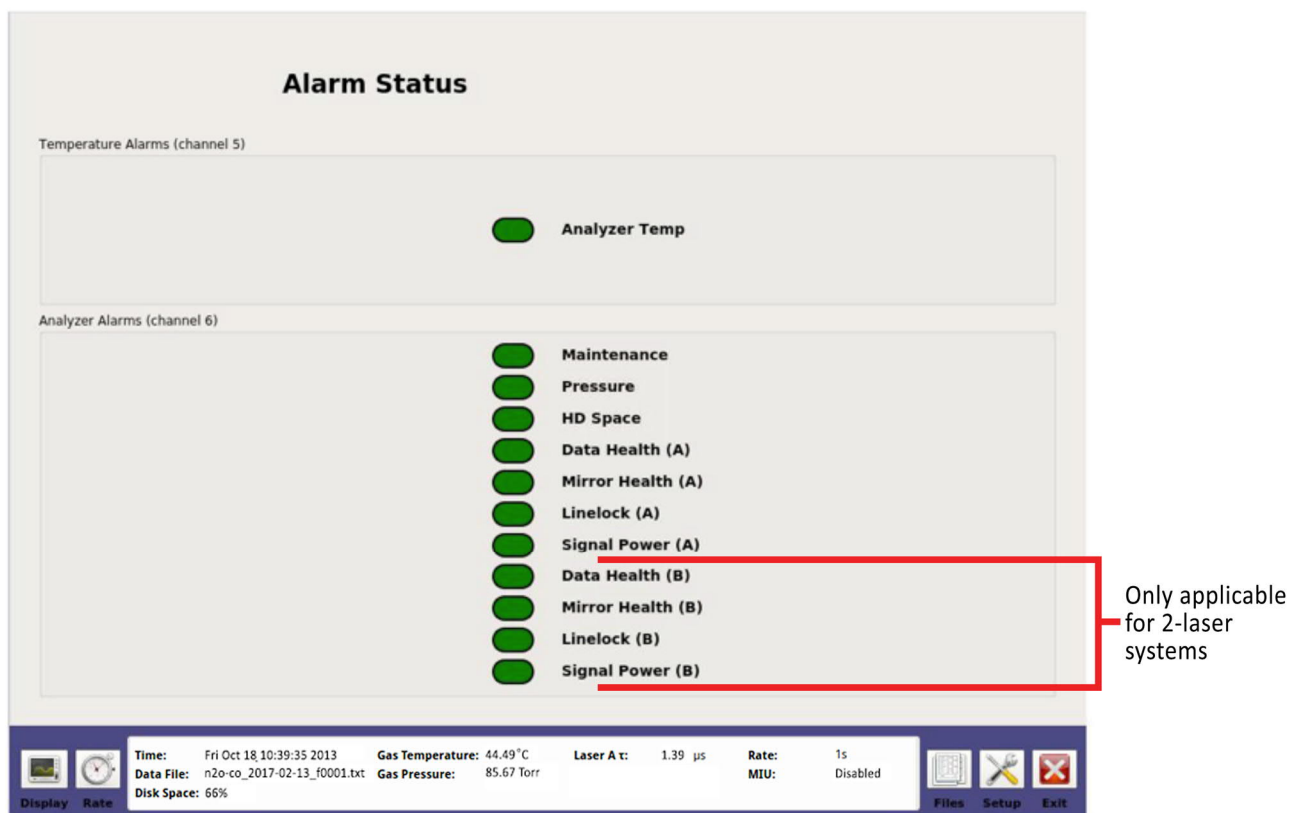

Figure 29: Alarm Status
- *Alarm Status Display* – shows the operational status of the analyzer. (Figure 29)
The *Alarm Status* display (Figure 29) shows the detailed operational status of the analyzer.
Figure 29 shows the *Alarm Status Display* with all parameters functioning properly.